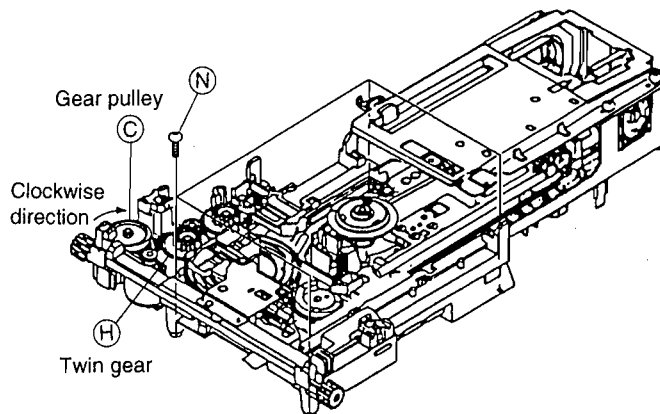
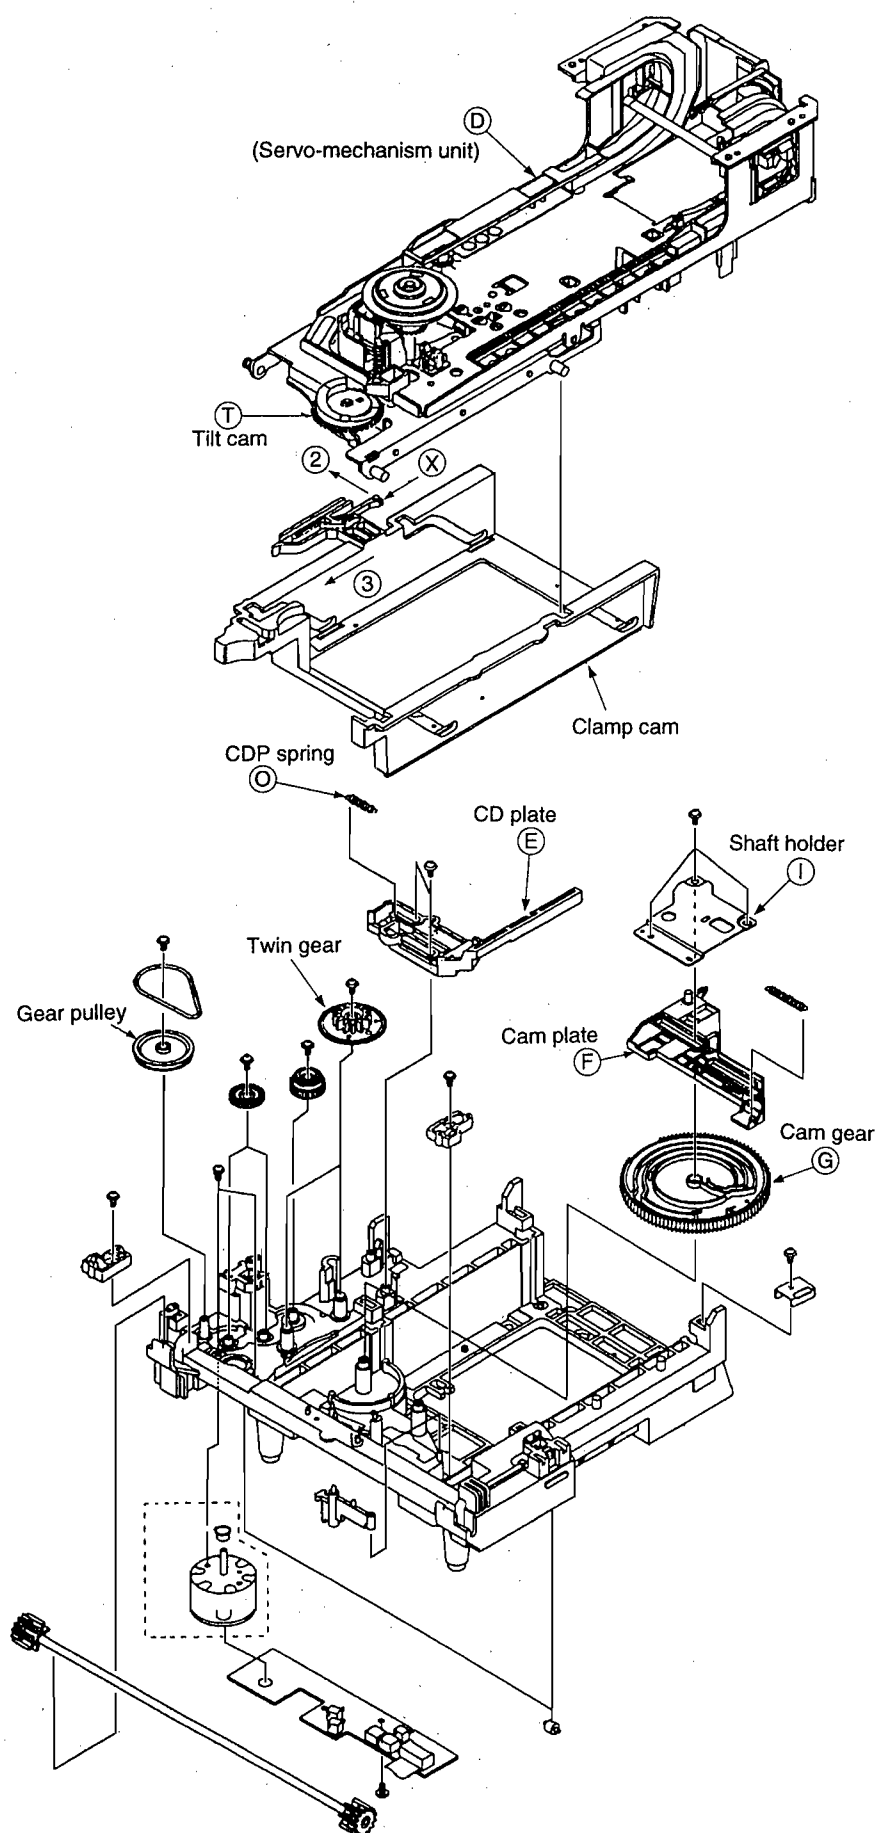
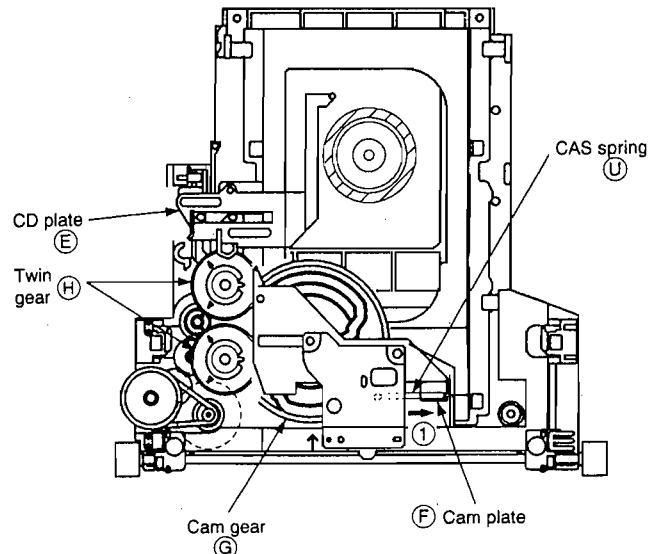
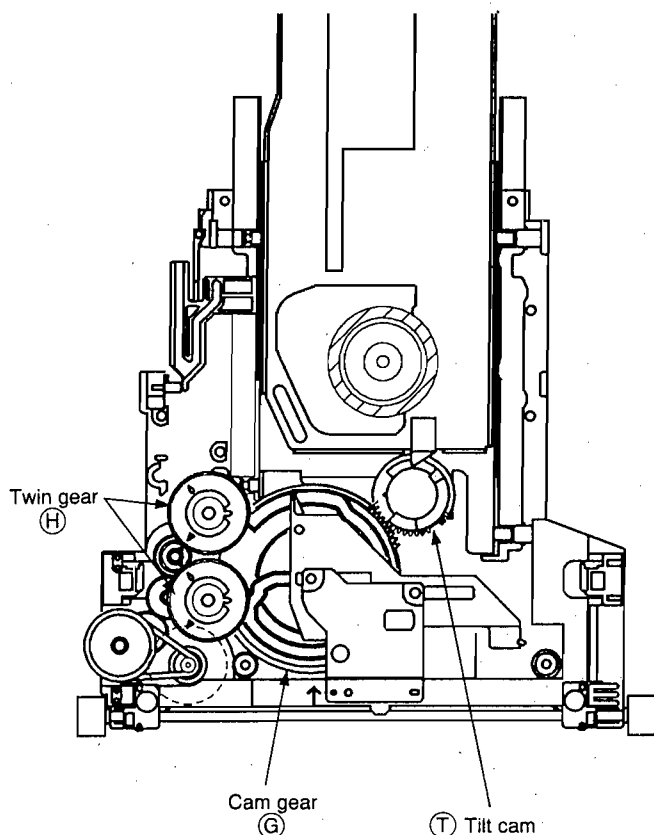

Fig. 1-4 Loading mechanism assembly
Fig. 1-5 Mechanism Section Disassembly Diagram
Fig. 1-7 Loading mechanism section
Fig. 1-8 Tilt mechanism section
3. Insert your hand through the bottom left side of the tray unit and turn the gear pulley (C) (Fig. 1-4) in a clockwise direction until the servo-mechanism unit (D) (Fig. 1-5) lowers. Keep turning the pulley until the tray unit starts to move towards the front.
4. Insert your hand through the bottom left side of the tray unit and turn the gear pulley **C** (Fig. 1-4) in a counterclockwise direction until the servo-mechanism unit **D** (Fig. 1-5) starts to move upward. Keep turning the pulley until the clamp position is reached.
5. When the clamp position has been reached, turn the gear pulley **C** (Fig. 1-4) in a clockwise direction until the servo-mechanism unit **D** lowers. Keep turning the pulley until the tray unit starts to move towards the front.
3. Remove the four fixing screws **N** (Fig. 1-4) of the mechanism base and remove the whole servo-mechanism unit from its casing.
4. Remove the mechanism base side of the CDP spring **O** (Fig. 1-5), loosen the CD plate's two screws, remove the CD plate **E** while bending the mechanism base.
8. While pushing the cam plate **F** (Fig. 1-7) towards the direction of the arrow **1**, turn the twin gear **H** (Fig. 1-7) in a counterclockwise direction.
9. Stop turning the twin gear **H** (Fig. 1-7) when the servo-mechanism unit **D** (Fig. 1-5) has gone upward and the tilt cam **D** is engaged with the cam gear **G** by three to five teeth. (Place in the same position when attaching the servo-mechanism unit.)
10. While bending the clamp cam hook **X** (Fig. 1-5) in the direction of the arrow **2**, move the hook to its "built-in position" **V** (Fig. 1-5) towards the rear.
11. Lift the servo-mechanism unit **D** straight up and remove the unit from the clamp cam (Fig. 1-5).
1. Make sure that the CD plate **E** is positioned to the right (LD Tray mode) as in Fig. 1-7. When the CD plate **E** is positioned to the left (CD Tray mode) as in Fig. 1-7, perform steps 1) to 2).
- 1) Turn the power ON. Press the LD OPEN/CLOSE button while pushing cam plate **F** (Fig. 1-7) towards the direction of the arrow **1**.
- 2) Wait until the cam gear **G** (Fig. 1-7) turns, the servo-mechanism unit **D** (Fig. 1-5) goes upward, and the carriage assembly stops moving.
- Press the LD OPEN/CLOSE button to open the tray unit, or pull out the power cord from the AC outlet and turn the twin gear ④ (Fig. 1-4) in a clockwise direction until the cam gear ⑤ (Fig. 1-5) can no longer turn.
- While turning the tilt cam ① in a counterclockwise direction by three to five teeth (Fig. 1-8) in the same manner as when the tilt cam was removed, attach the servo-mechanism unit from above to the clamp cam (Fig. 1-5). Insert the lead wires to the bottom side through the opening the center of the mechanism base.
- While bending the clamp cam hook ② in the direction of the arrow ②, move the hook in the direction of the arrow ③ (Fig. 1-5).
- Turn the twin gear ④ (Fig. 1-8) in a clockwise direction until the servo-mechanism unit lowers, the cam gear ⑤ (Fig. 1-8) stops turning, and twin gear ④ (Fig. 1-8) runs idle.
- Bring the clamp cam (Fig. 1-5) close towards you (while the servo-mechanism unit is being lowered).
5. Fix the shaft holder ㉘ using three screws (Fig. 1-5).
1. Upon attaching the CDP spring ㉜ (Fig. 1-5) to the CD plate ㉝, attach the CD plate ㉝ (from the right side) into the position shown in Fig. 1-7